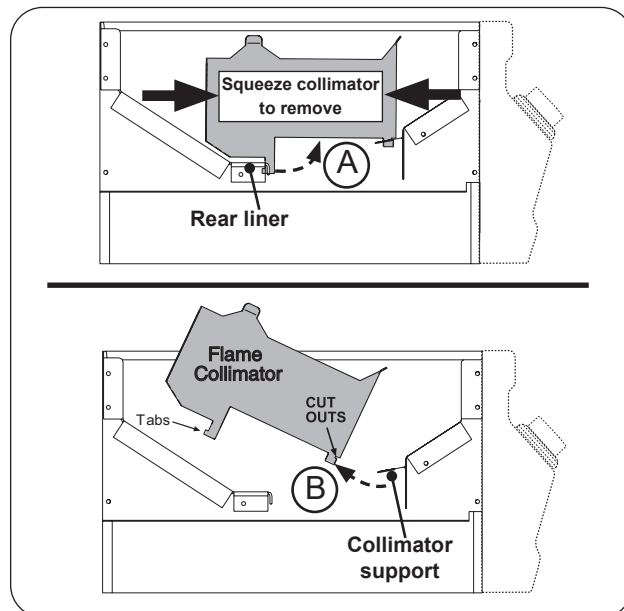

Fig. 40-2 Flame collimator removal
2. Lift up the interior protection plate from the left side, then lift up from the right side (see Fig. 40-2, A and B).
3. While lifting the plate upward, flex the collimator inward to completely free the protection plate (see Fig. 40-2, C).